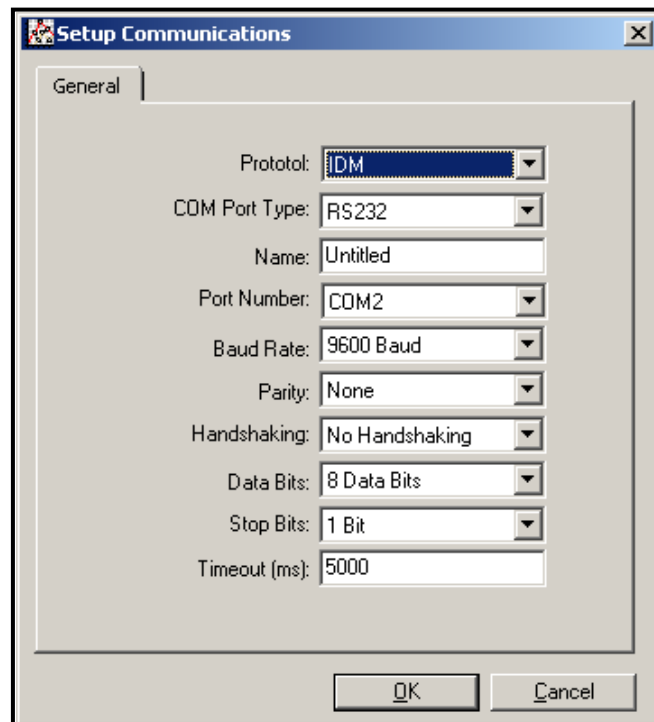

Figure 34: *Setup Communications* Screen
5. Click on the *Communications Port* option to select it. The *Setup Communications* screen appears similar to *Figure 34*.